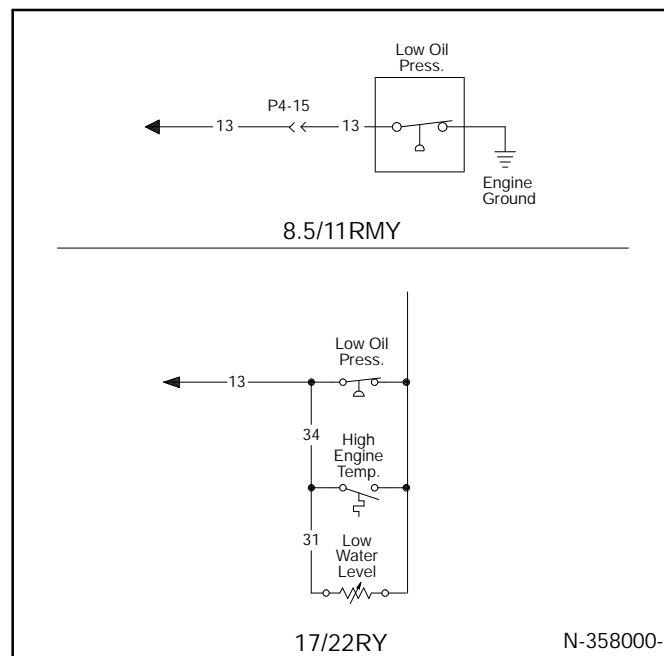

Figure 5. Generator Set Fault Shutdown Switches and Sensors
3. Start the generator set and ground any connected engine shutdown switch/sensor. See Figure 5. During generator set shutdown, caused by the grounding procedure, the relay contacts should close and a continuity reading (zero ohms) should be obtained on the ohmmeter.